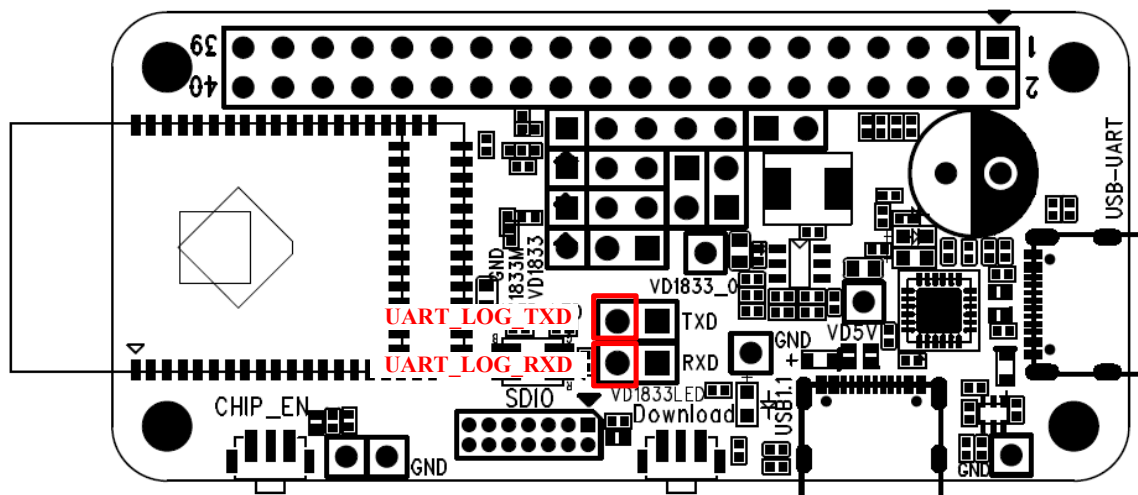

Figure 4-1 Location of SWD function on EVB
- (2) Refer to the figure 4-1 and find the Location of LOGUART function on EVB. The default LOGUART function is distributed on PB4 (UART_LOG_RXD) and PB5 (UART_LOG_RXD).
- (3) Connect EVB and external UART communication module through four DuPont lines including TXD, RXD, ground and power (Power is optional).